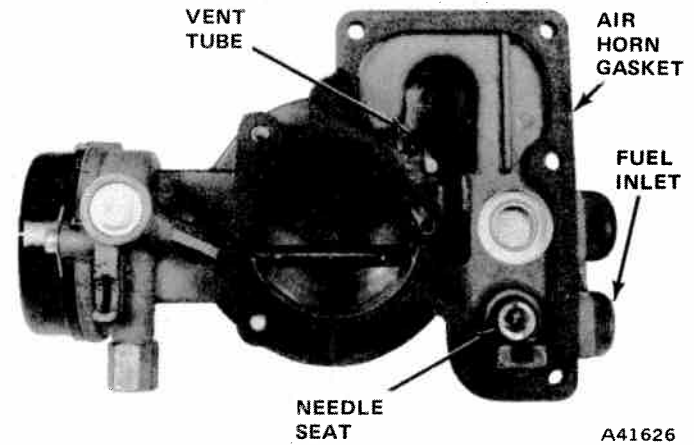

Fig. 4-17 Interior View of Air Horn
(1) Remove choke cover attaching screws and retainers, thermostatic spring housing assembly, spring housing gasket, spring housing baffle plate, and fast idle link.
(2) Remove air horn assembly attaching screws, dashpot or solenoid bracket assembly, air horn assembly, and air horn gasket.
(3) Hold air horn assembly bottom side up, and remove float pin, and float lever and lever assembly. Turn the air horn assembly over and catch the needle pin, spring, and needle.
(4) Remove needle seat and gasket (fig. 4-17).